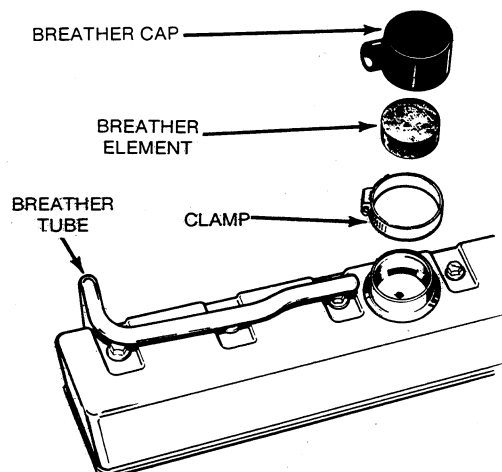

FIGURE 17. CRANKCASE BREATHER
1. Remove breather cap and lift out the breather element (Figure 17).